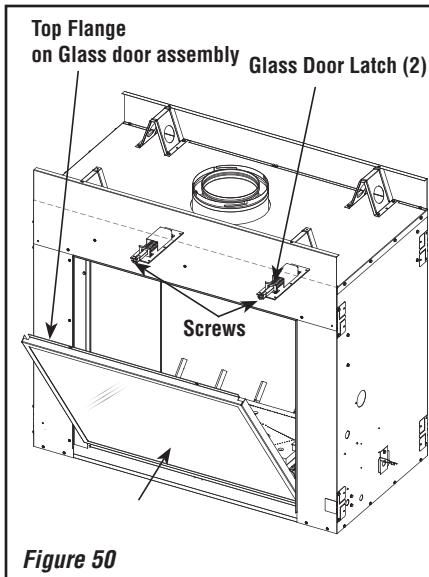

Figure 50
- b) Position the door in front of the firebox opening, with the top of the door held away from the fireplace (see Figure 50).
- d) Using a #3 Phillips screwdriver, fasten the door frame to the door latches with the two (2) latch screws. The latches should pull forward to engage the door frame.
- a) See Figure 50. While holding the top of the glass door frame in place, use a #3 Phillips screwdriver to remove the two (2) screws securing the door frame to the two (2) door latches.